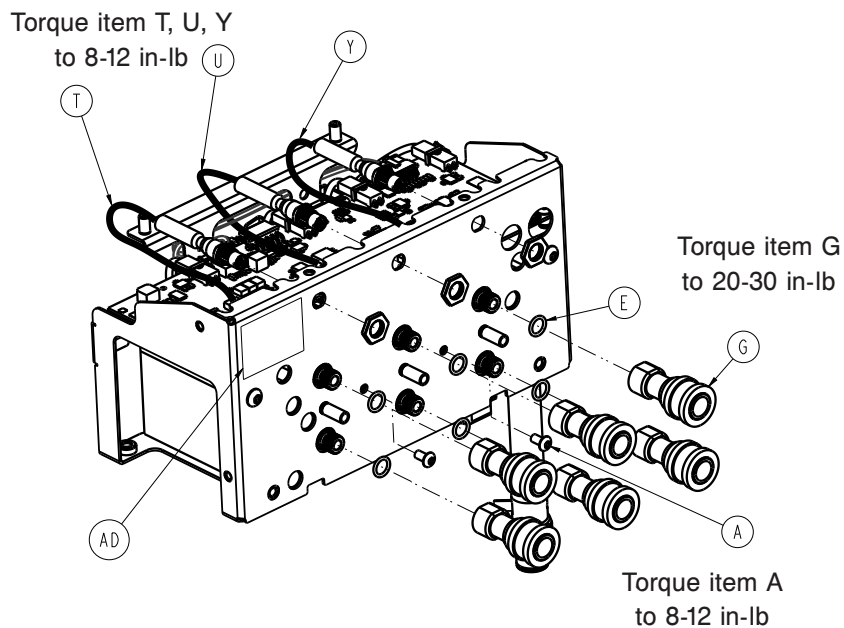

Figure 46: Hose connectors
19. Using a crescent wrench, remove and save the six hose connectors (G) and O-rings (E). (Figure 46 on page 61)